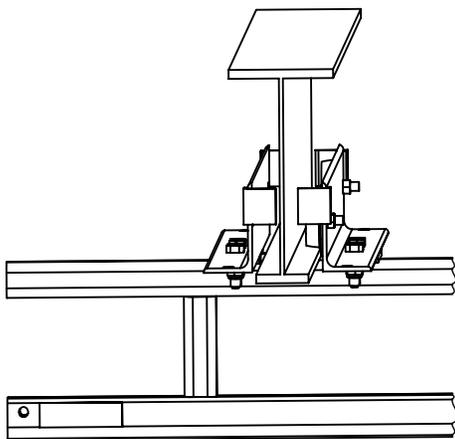
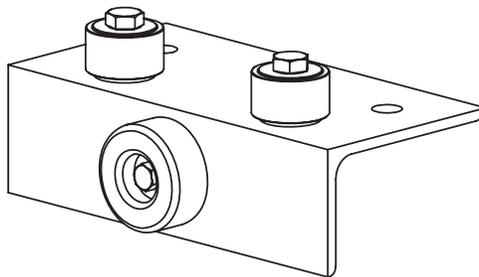
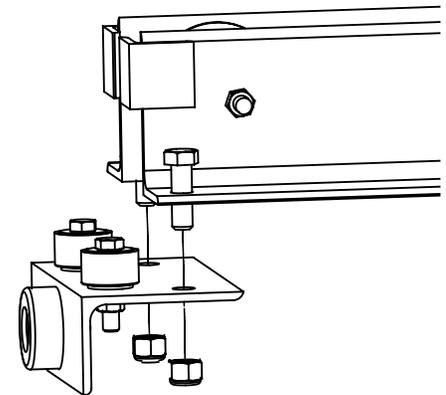

Figure 4
Figure 5
Figure 6
2. Repeat **step 1** for the opposite side of the I-beam. This will leave you with **Figure 4**.
3. Attach an End Truck End Frame (**Figure 5**) to the partially assembled end truck (**Figure 4**) on the I-beam using two 5/8" bolts and lock nuts (**Figure 6**). Only hand tighten the lock nuts, leaving space for movement, as there may be slight adjustments needed before the hardware is torqued to specifications.
1. Unscrew the bolt securing the bumper from the End Truck End Frame, **Figure 5**, from the side of the beam you wish to install the Beam Boss.